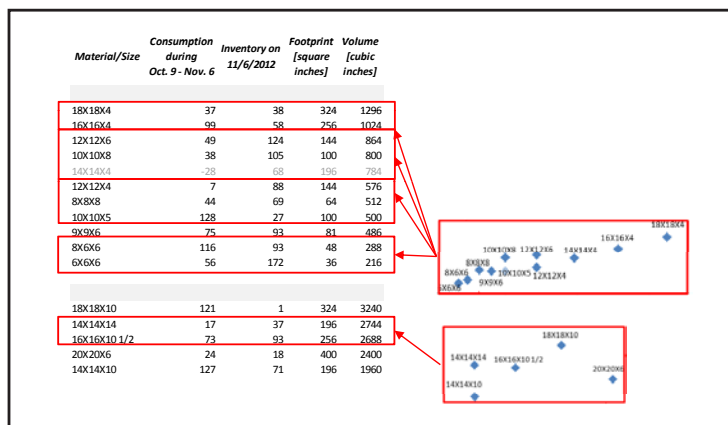

Figure 4 Grouping cartons with similar packing volume.
- Figure 4 presents the potential for reducing the number of different cartons that we buy. If we could standardize on the sizes that we use, and reduce this number, that ought to reduce our purchasing and inventory carrying costs. For example, the carton sizes 8×6×6 and 6×6×6 differ by a cubic volume of only 72 cu. in. We studied the data on the usage of these two sizes during the period October 9–November 6. If we decided to buy only the 8×6×6 size in the future, that would result in us shipping a total volume of (2×6×6×56) cubic inches of air that would have to be filled up with crumpled paper or foam padding. How does that cost trade off against being able to buy 35 more cartons of the 8×6×6 carton size? This appears to be a technical problem that could be offered to an IE graduate student doing their MS thesis. Or, we could be pragmatic and listen to Pett who has already eliminated 4 SKU’s as of the writing of this column.